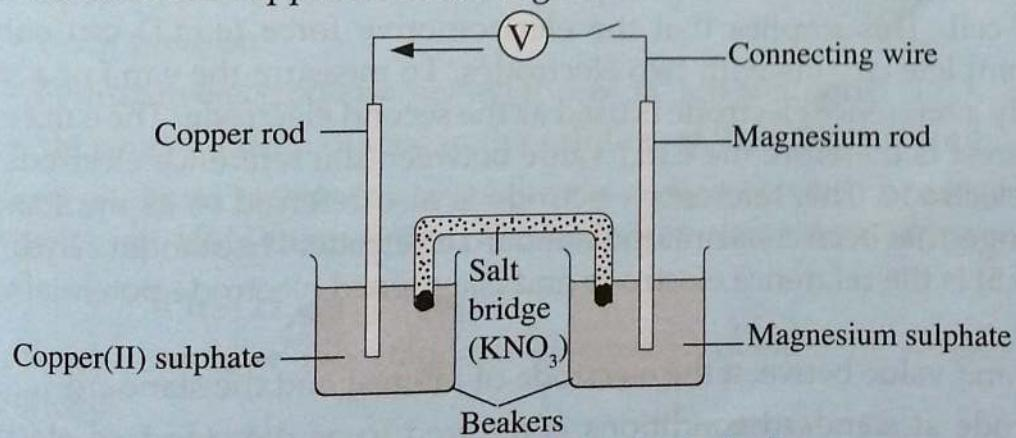

Fig. 3.4: Measuring the e.m.f. of an electrochemical cell
1. Assemble the apparatus as in Fig. 3.4